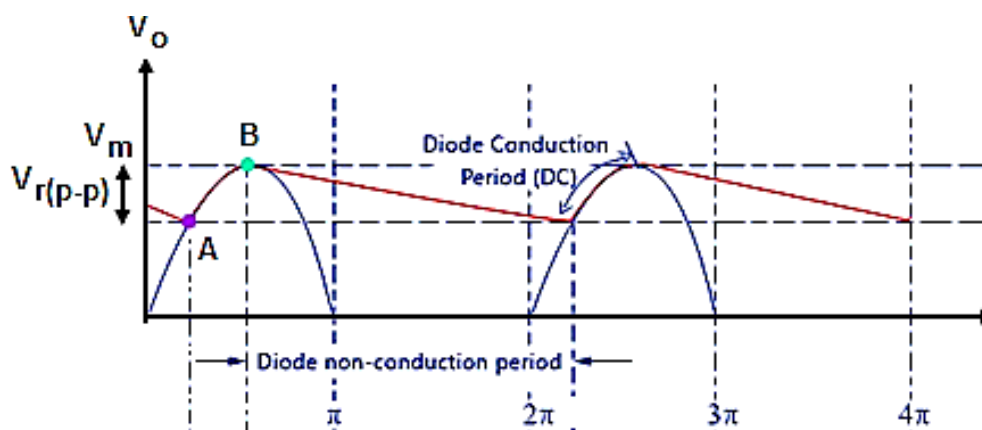

Fig.1.25: Output voltage waveform of Half-wave rectifier with and without capacitor filter
- In the Fig.1.25 the dotted line shows the **output of the rectifier without capacitor filter**, where  $V_o$  varies between **zero and  $V_m$** .